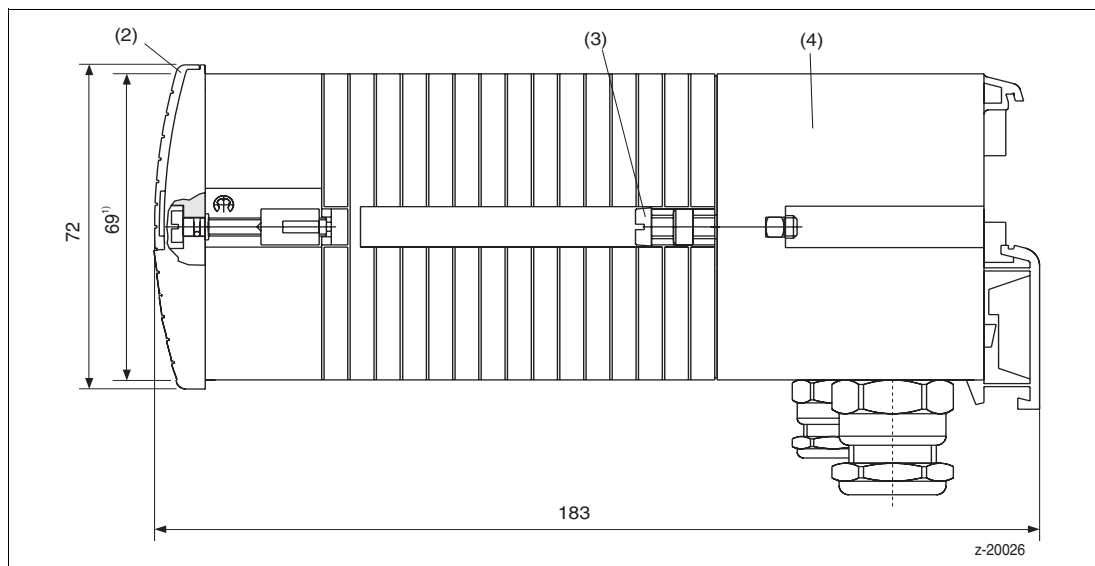

Fig. 3-3 Dimensional drawing, side view, rear housing (all dimensions in mm)
1. Snap rear housing (4) (see Fig. 3-3 on page 10) onto the 35 mm top hat rail.
2. Insert the signal cable and the power cable through the PG cable gland into the rear housing (4) (free cable length in rear housing approx. 50 mm)
6. Insert the rear fastening screws (3) from the front.
7. Fasten the device to the rear housing (4) using the screws (3).